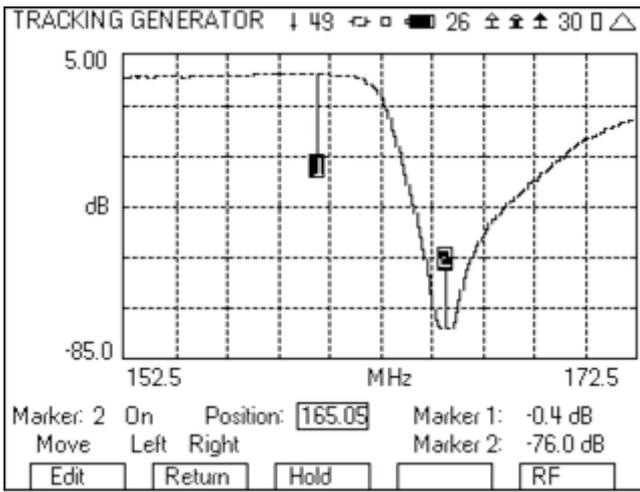

Figure 32 - Tracking Generator with markers
4. From this setup, make the adjustments to the UUT pass band and reject band. After tuning, the display should look something like Figure 32.